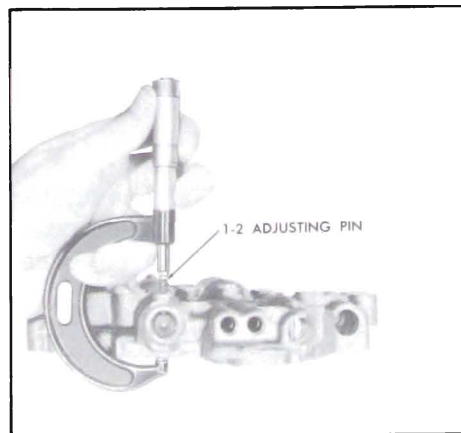

Figure 5-578
13. If removal is necessary, the exact position of the adjusting screw is determined before removal by using 1" to 2" micrometer and measuring from the top to the adjusting screw (remove burrs from adjusting screw) to the machined surface of the valve body and remove the screw if necessary. See Figure 5-578.